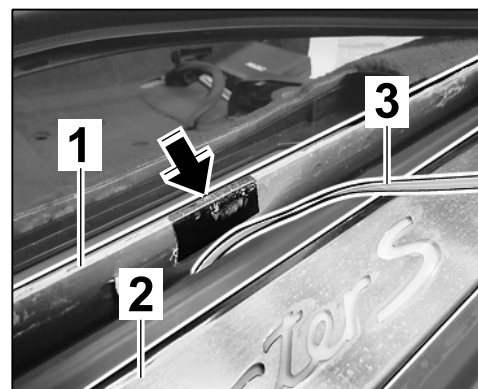

Figure 16
- 3.3 To protect the flat conductor path on the body flange ⇒ *Figure 16 -1-*, stick wrapping tape/insulating tape ⇒ *Figure 16 -arrow-* around the body flange.